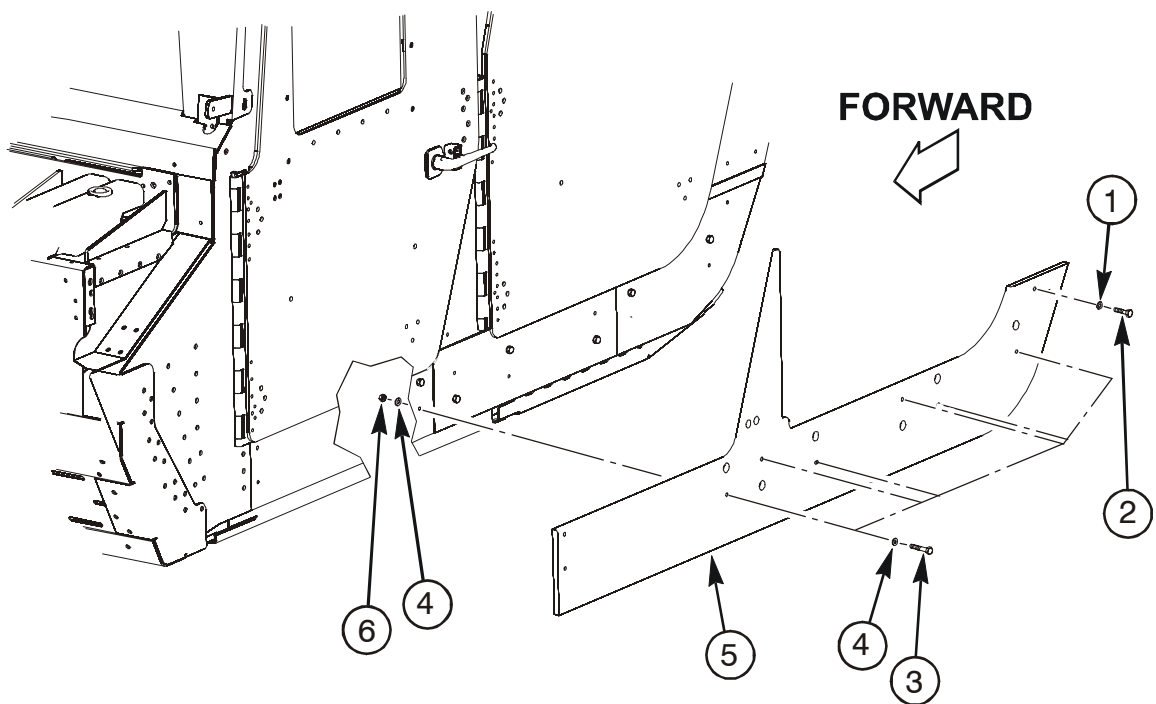
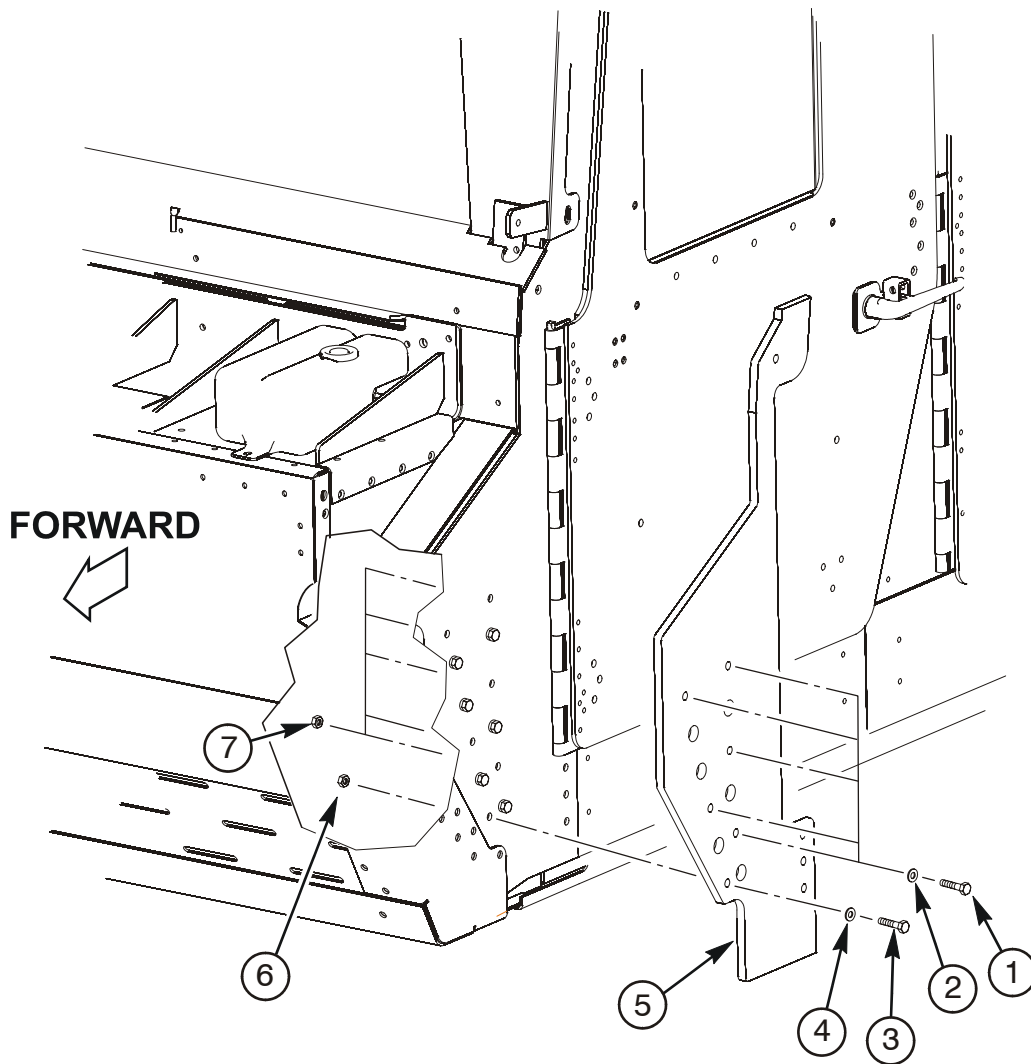

Figure 5.
Figure 7
7. Apply sealing compound to one 4397000-013 capscrew (2). See figure 5.
8. Install 6432865 left rocker panel overlay (5) securing with six 4397000-017 capscrews (3), twelve 4397005-010 flat washers (4), six 4397064-001 locking nuts (6), one 4397000-013 capscrew (2) and one 4397005-010 flat washer (1) as shown in figure 5. Do not tighten capscrews (3 and 2) at this time.
10. Install 6432867 left side A-pillar overlay (5) securing with five 4397000-066 capscrews (1), five 4397005-014 flat washers (2), five 4397064-005 locking nuts (7), one 4397000-067 capscrew (3), one 4397005-014 flat washer (4) and one 4397064-005 locking nut (6) as shown in figure 7. Do not tighten capscrews (1 and 3) at this time.
13. Tighten left rocker panel overlay and left A-pillar hardware as follows. Torque six capscrews (3) to 10 lb-ft. (14 N·m) and capscrew (2) to 6 lb-ft. (8 N·m) per figure 5. Torque five capscrews (1) and one capscrew (3) to 37 lb-ft. (50 N·m) per figure 7.